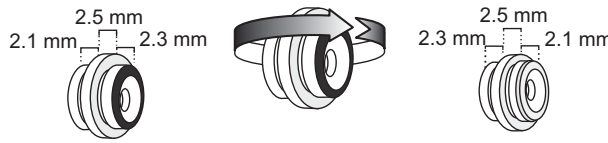

Figure 18. Reversing the Mounting Button
4. Unscrew and remove the mounting button. Turn it around 180°. Secure the mounting button to the ePDU (see Figure 18).